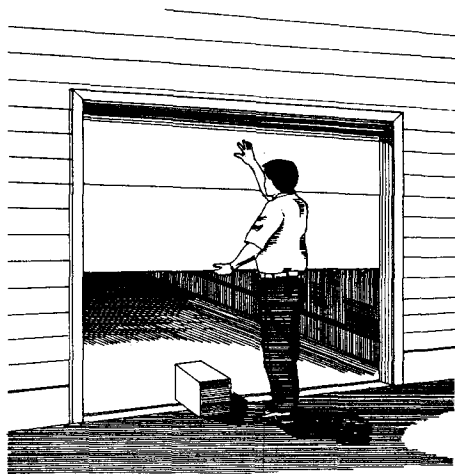
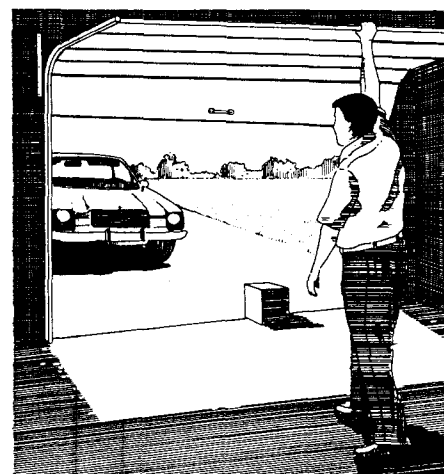

FIG. 16
FIG. 17
**SMOOTHNESS AND BALANCE TEST:** Set the release for manual operation. Raise the door partially and place the corrugated box under the door. Move the door to various positions above the box and lightly restrain it so that you can determine if it has a tendency to move either up or down (Fig. 16). If the door can be held easily from moving in either direction the door balance is satisfactory. Move the door to its full open position. Allow the box to remain under the door. Standing on the floor, attempt to push the door from the rear by grasping the door arm and walking forward with a steady motion (Fig. 17). If a binding condition exists the door will be very difficult to move or it may even stop. In some cases, relaxing the pressure will allow the door to move again through this point. If such a condition exists, contact your installer. If no binding exists the door can move to a point where it may move downward unassisted. Your balance determination previously made should warn you of this fact. If the door does do this then let go of the door arm and let the door fall on the corrugated box.